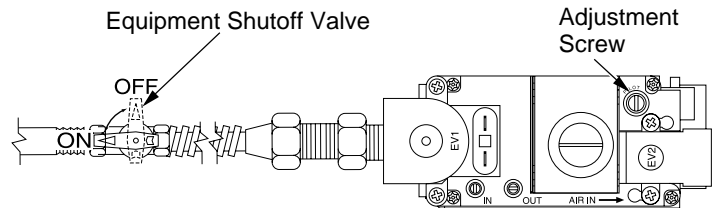

Figure 37 - Turning Equipment Shutoff Valve to the OFF Position
6. Turn equipment shutoff valve clockwise  to the OFF position (see Figure 37). Do not force.
7. Wait five (5) minutes to clear out any gas. Then smell for gas, including near the floor. If you smell gas, **STOP!** Follow "B" in the safety information. If you don't smell gas, go to the next step.
- Turn the adjustment screw marked PILOT clockwise to decrease or counterclockwise to increase the flame to proper size (see Figure 37, page 17). Do not remove the adjustment screw.